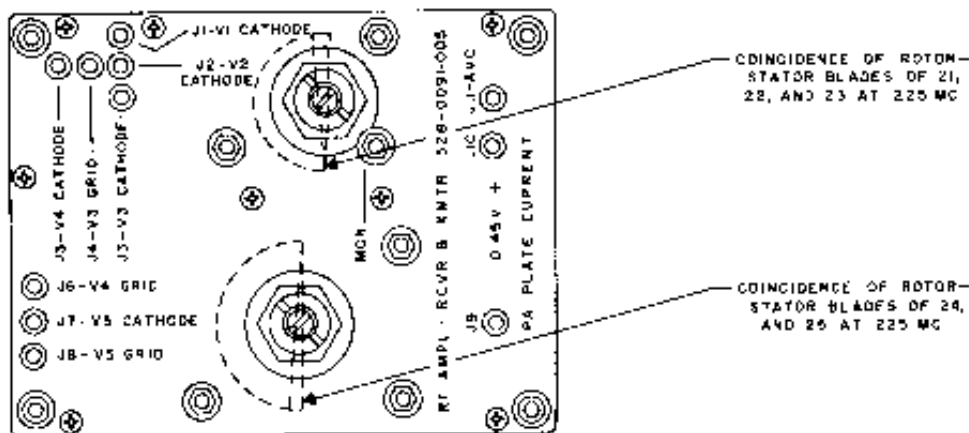

Figure 5-26. R-F and Power Amplifier Module Rotor-Stator Coincidence at 225-Mc
- (p) Repeat the procedures of steps 5-3e(3)(d) and 5-3e(3)(e) for each 10-mc increment down through 229.9 mc. Refer to figure 5-26.